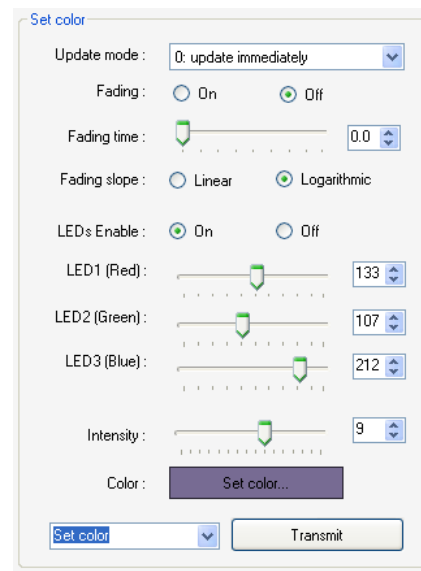

Figure 10. Set Color Command
1. Select Set Color command. (see Figure 10)